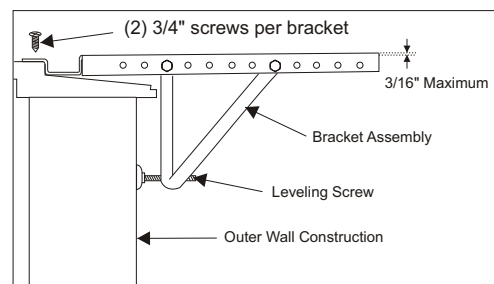
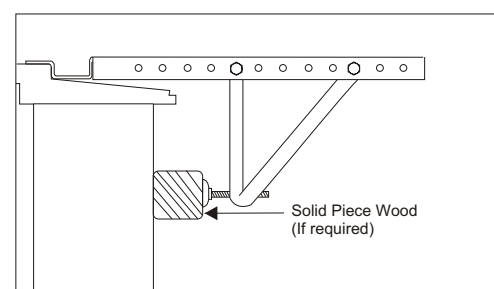

Fig. 7
Fig. 8
Two bolts per bracket. Secure with the (2) **1/4" lock washers** and (2) **1/4" nuts**. **DO NOT** immediately tighten these bolts as it may be necessary to adjust the depth of the **bracket assembly**, depending on the depth of your window sill. See (Fig. 7). Install the two **leveling screws** into the 90° support brackets. Test the bracket assembly in the window before cabinet installation. If the leveling screws are distanced too far away from the wall to provide stability, it may be necessary for you to fill this area with a solid piece of wood. See (Fig. 8).
C. For proper condensation run-off it will be necessary to adjust the angle/pitch of the window brackets. This is accomplished by adjusting the distance of the leveling screw on the outer wall. The maximum angle/pitch should not exceed more than 3/16". See (Fig. 7).
Use a solid piece of wood to provide stability. This will be required when sills are extra deep. See (Fig. 8).
C. Check to make sure that the cabinet is slanted slightly downward on the outside. If necessary, re-adjust support bracket as shown in (Fig. 7).